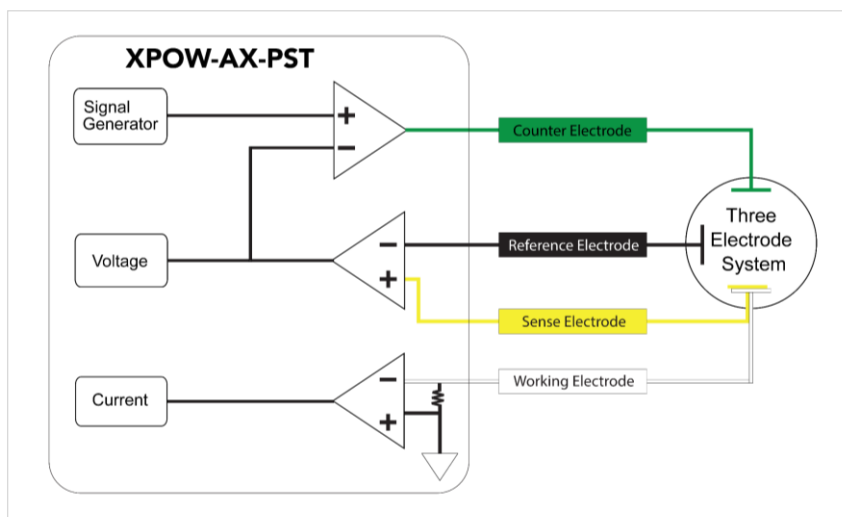

Figure 2. Schematic of XPOW-AX-PST into electrode cell
| Figure 2. | Schematic of XPOW-AX-PST into electrode cell | 6 |
There are 4 (four) different electrodes: Working Electrode (WE), Counter Electrode (CE), Reference Electrode (CE), and Sense Electrode (SE). Figure 2 shows the connection for the potentiostat, we can see that for three electrode system, the SE port is coupled with the WE port.